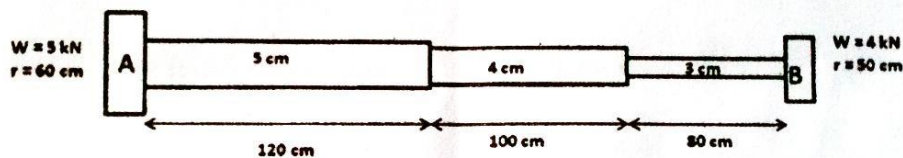

Figure.13 (b)(ii)
- (b) (i) Derive the equations of motion for a two rotor system and frequency is evaluated from those equations. (6)
- (ii) Find the natural frequency of the two rotor system shown in Fig.13 (b) (ii) also locate the position of the node with respect to the rotor A.  $G = 70 \text{ GPa}$ .